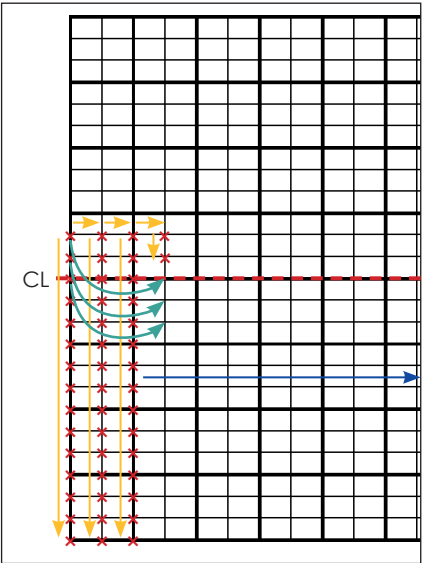

Figure 46: Use Jigs for XY Axis Seam Adjustment
- 10. Repeat **Steps 4-9**, working from two lines above the CL downward to the bottom of the display. Refer to **Figure 46**.